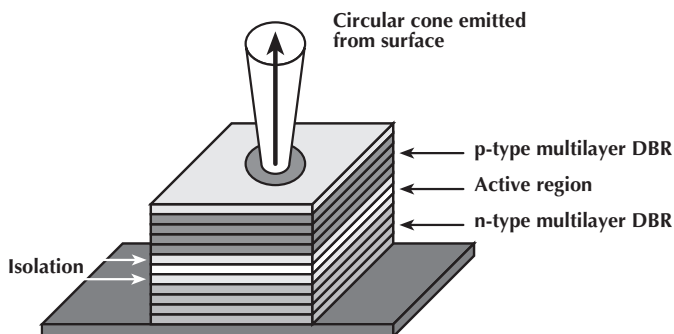

Figure 1. A Simplified VCSEL Structure (Source: Kartalopoulos).
Other advantages of VCSELs include their high reliability and the fact that they require much less current to operate than edge-emitting lasers. The light pattern emitted from the surface of the VCSEL is circular, rather than the elliptical pattern produced by edge-emitting lasers. This subtle difference in output allows for more efficient coupling of VCSELs to round fiber-optic cables. As shown in **Figure 1**, VCSELs are formed with many layers of indium-gallium arsenide (InGaAs) to emit at the red, near IR, and IR wavelength regions. They are compatible with low-cost silicon, germanium, and InGaAs photodetectors (PD). The basic structure of a VCSEL consists of a thin active region sandwiched between two highly reflective distributed Bragg reflectors (DBR).